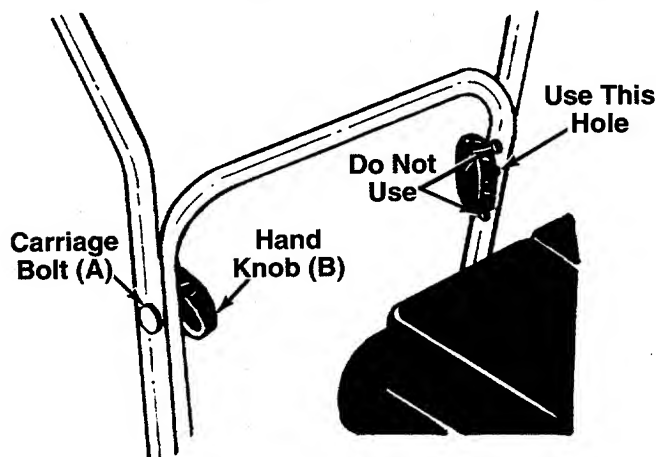

FIGURE 3.
Place the upper handle (D) over the lower handle, lining up the holes in the upper handle with the **middle** holes in lower handle. Secure with carriage bolts (A) ← and hand knobs (B). See figure 3.